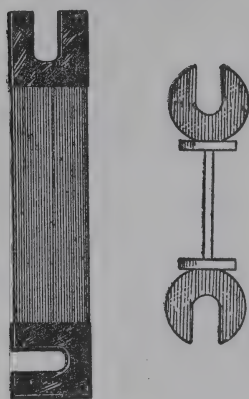

Fig. 82
14. *Electric Fuses* (Fig. 82). — Fuses are made of short pieces of wire or thin sheet metal. The metal is an alloy of lead and tin